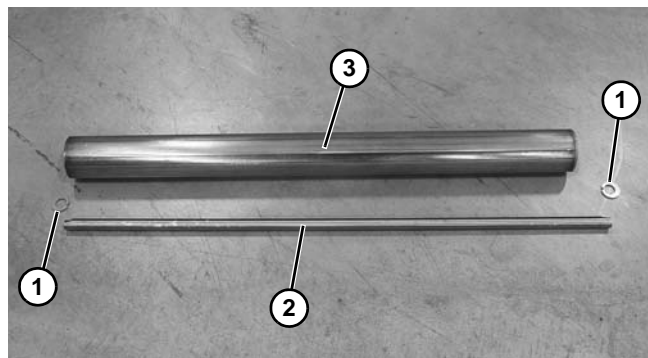

Figure 109
6. Remove the spacers (Figure 109, item 1) and shaft (Figure 109, item 2) from the idler pulley (Figure 109, item 3).